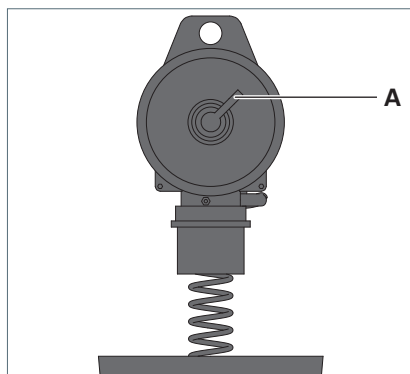

Fig. 10: Setting the spring force of the rise-and-fall pendants.
- Set the spring force of the rise-and-fall pendants at the rotary handle **A** of the cable reel to such a value that the luminaire can be easily height-adjusted, see Fig. 10.